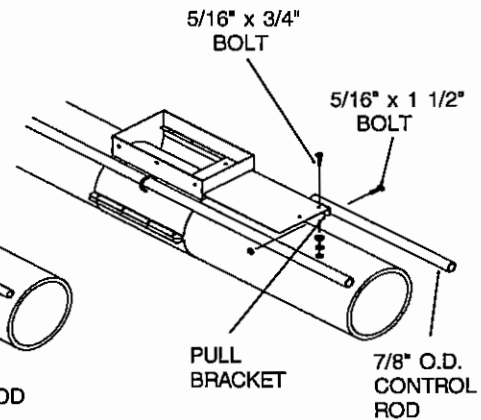

FIG. 16
- 6C. On bin diameters of 42' thru 60', the outer two intermediate well gates are attached to the 7/8" diameter control rod using 5/16" x 1 1/2" bolts to attach the rod to the pull bracket. See Fig. 16.